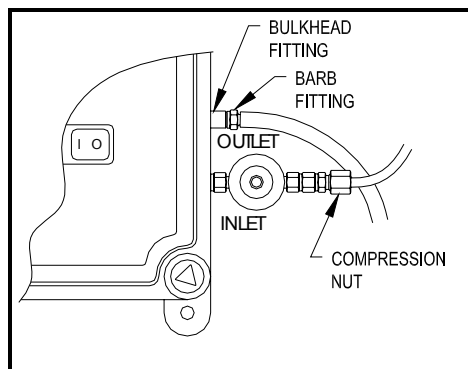

Figure 8. External Tubing Connections
2. Disconnect the feed water line from the “Sample Outlet” and regulator on “Sample Inlet” identified in Figure 8.
6. Remove the outer nut from the “Sample Outlet” bulkhead fitting as indicated in Figure 8.